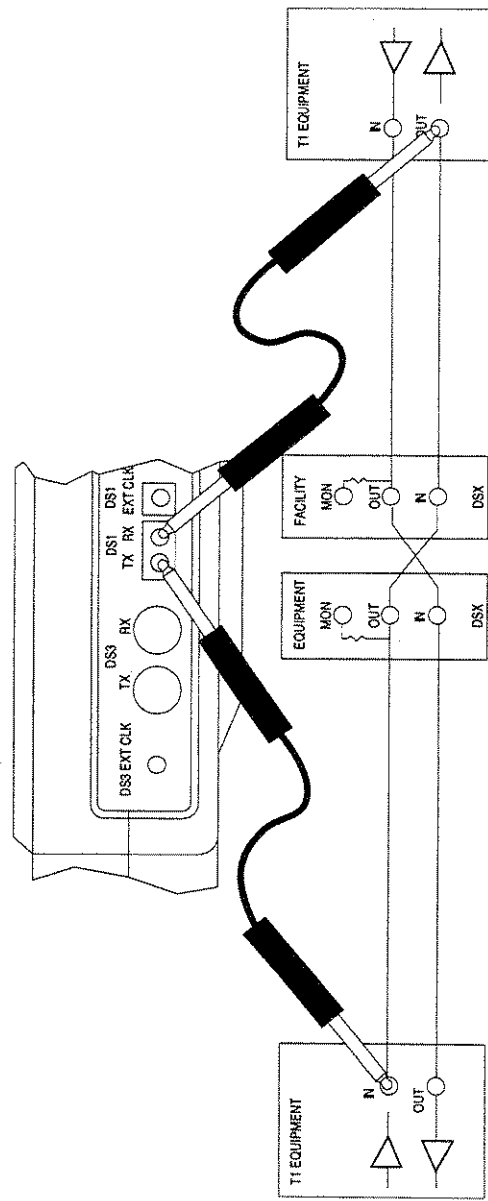

Figure 1.9.A Checking the DSX wiring
- 5) Connect the test set to the circuit as shown in Figure 1.9.A. You may use one test set as shown in the diagram, or two test sets if the two pieces of equipment are not reasonably close together. You will need to find a point on either side of the DSX where you can plug in the test set. This point could be at test jacks on the network equipment on either side of the DSX. You will need to make sure that you have opened the circuit at each point so that the test set is not bridge-tapped onto the existing circuit.